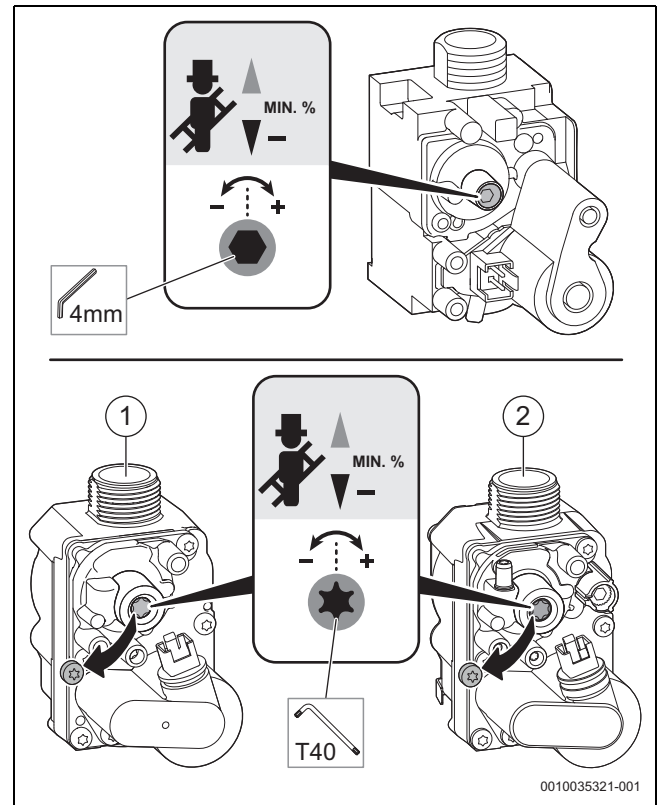

Fig. 82 Setting the CO₂ content (above: SIT valve, below: Honeywell valves)
- ▶ Remove the seal from the adjusting screw of the gas valve (only gas valve is shown in the below Figure 82) and set the CO₂ content for minimum rated output.